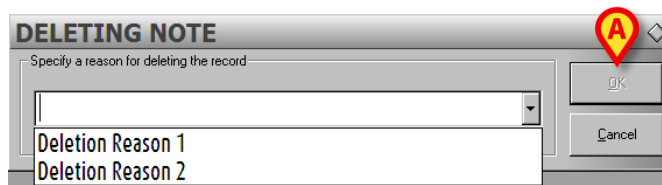

Fig 83
The reason for deletion can be specified either typing it or selecting it on a list of pre-defined reasons (Fig 83). Click the  button - Fig 82 A - to display the list of pre-defined reasons.
- Click the **Ok** button (Fig 83 A)